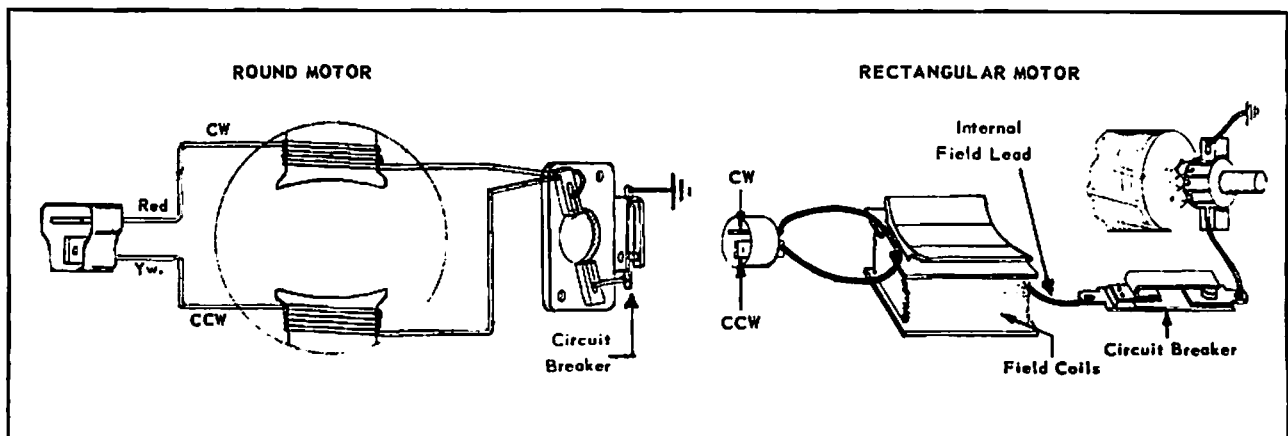

Figure 3-18
1. Connect up unit to operate (CW or CCW) with an ammeter in the feed wire circuit. (Figure 3-18)